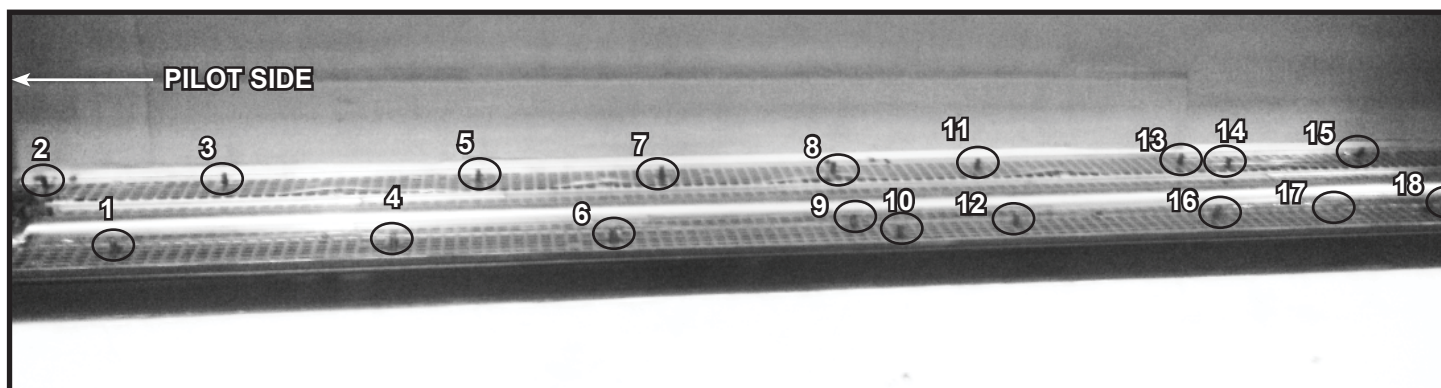
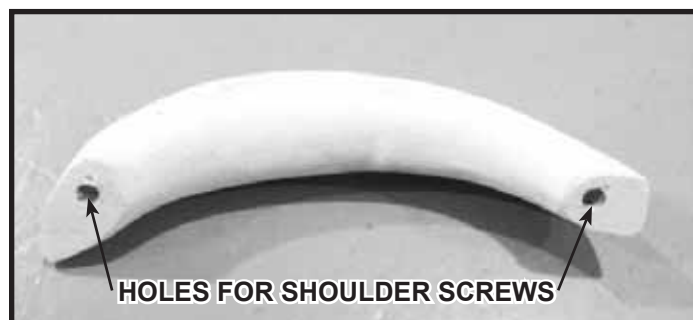

Figure 1. Shoulder Screw Placement
Figure 2. Log Placement Holes
3. Install eighteen shoulder screws into pilot holes in media tray. Locations are indicated in Figure 1. The logs have log placement holes which are used to place the logs properly. See Figure 2.
Note: The log part number is stamped in the bottom of the log near one of the shoulder screw holes. See Figure 2.